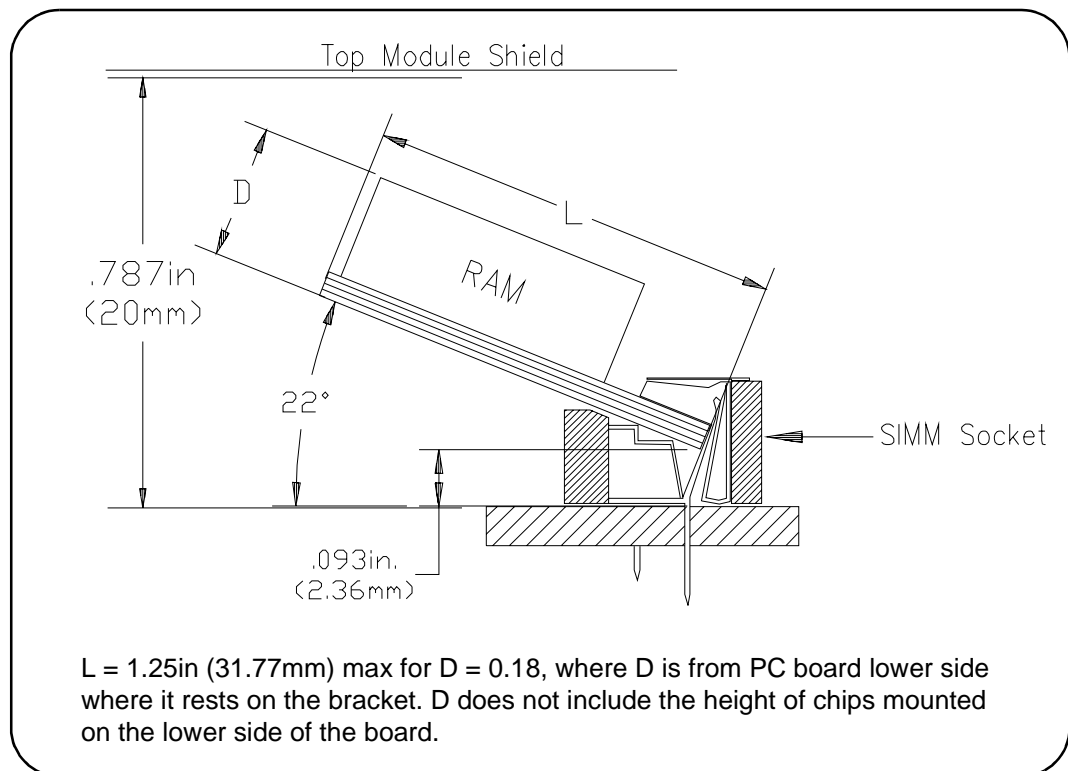

Figure 1-3. Adding RAM to the Module
The E1563/E1564 has about 17.6 mm of space from the bottom of the SIMM RAM inserted in the socket to the top module shield (see Figure 1-3). You must verify that the SIMM RAM you purchase for replacement on the module has a depth (D) that will clear the top module shield. You can use the 4 Mbyte SIMM RAM you remove as a guide, as well as the dimensions in Figure 1-3, when purchasing your upgrade RAM .